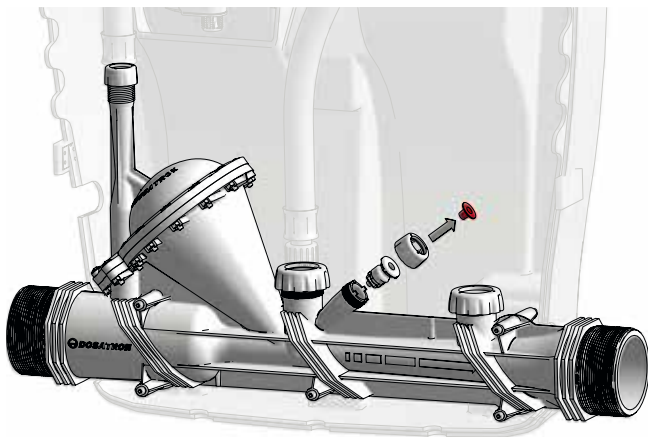

Fig. 10
- It restores atmospheric pressure in the installation automatically if there is accidental depressurisation* (**Fig. 10**).